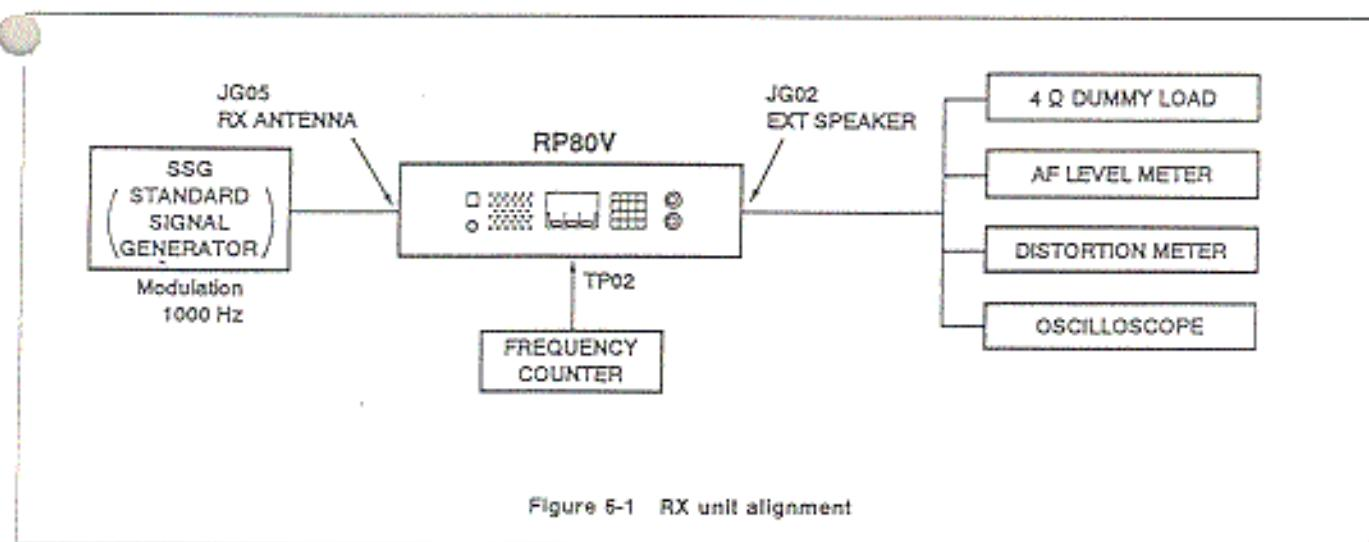

Figure 6-1 RX unit alignment
- Connect the measuring instruments as shown in Figure 6-1. Connect the standard signal generator (SSG) to JG05 (RX antenna connector).